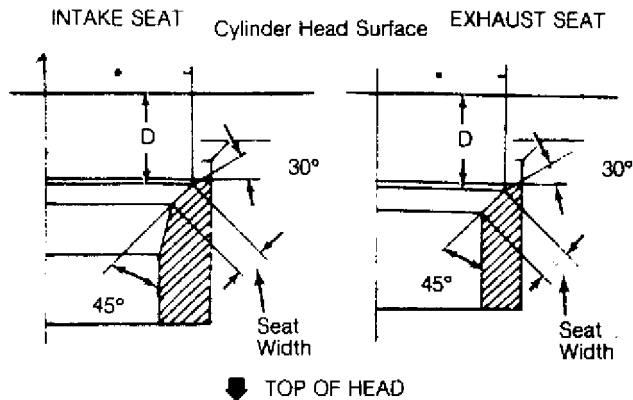

Fig. 6: Measuring Refacing Limits of Valve Seats
4) On all models, second limit for maximum amount of material that may be removed from seat is determined by distance "D" from lower face of cylinder head to edge of 45 degrees valve seat angle. See Fig. 6. Maximum distance "D" for intake seats is .36" (9.2 mm). Maximum distance "D" for exhaust seats is .35" (9.0 mm).